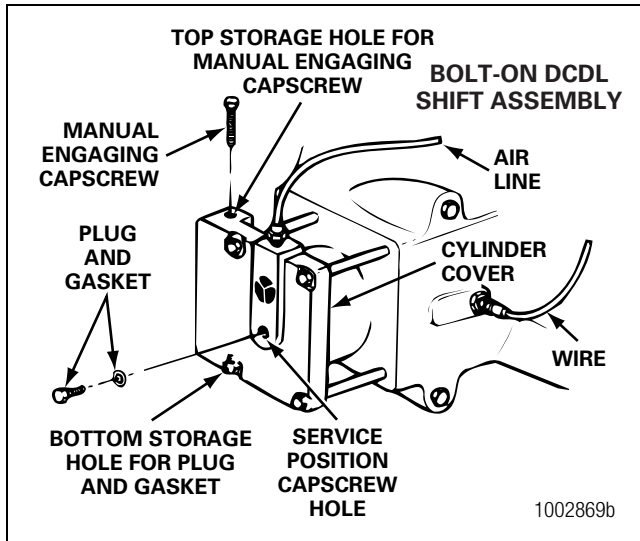
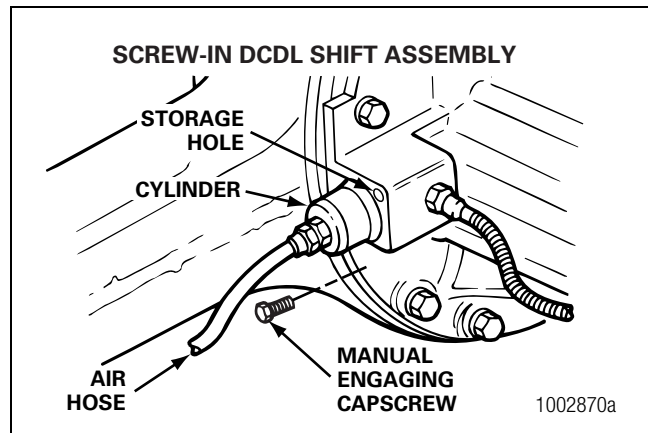

Figure 6.19
Figure 6.21
1. Install the washer and plug into the hole for the sensor switch. Tighten the plug to 45-55 lb-ft (60-74 N•m). Figure 6.19.
- Install the manual engaging capscrew into the DCDL storage hole in the bolt-on or the screw-in DCDL assembly. Figure 6.19 and Figure 6.21. The sealing gasket must be under the head of the capscrew.
Install the short plug and gasket into the service position hole in the center of the DCDL. Figure 6.19.
- On a screw-in DCDL shift assembly, install the short screw or plug into the storage hole located in the top of the screw-in DCDL shift assembly. Figure 6.21.